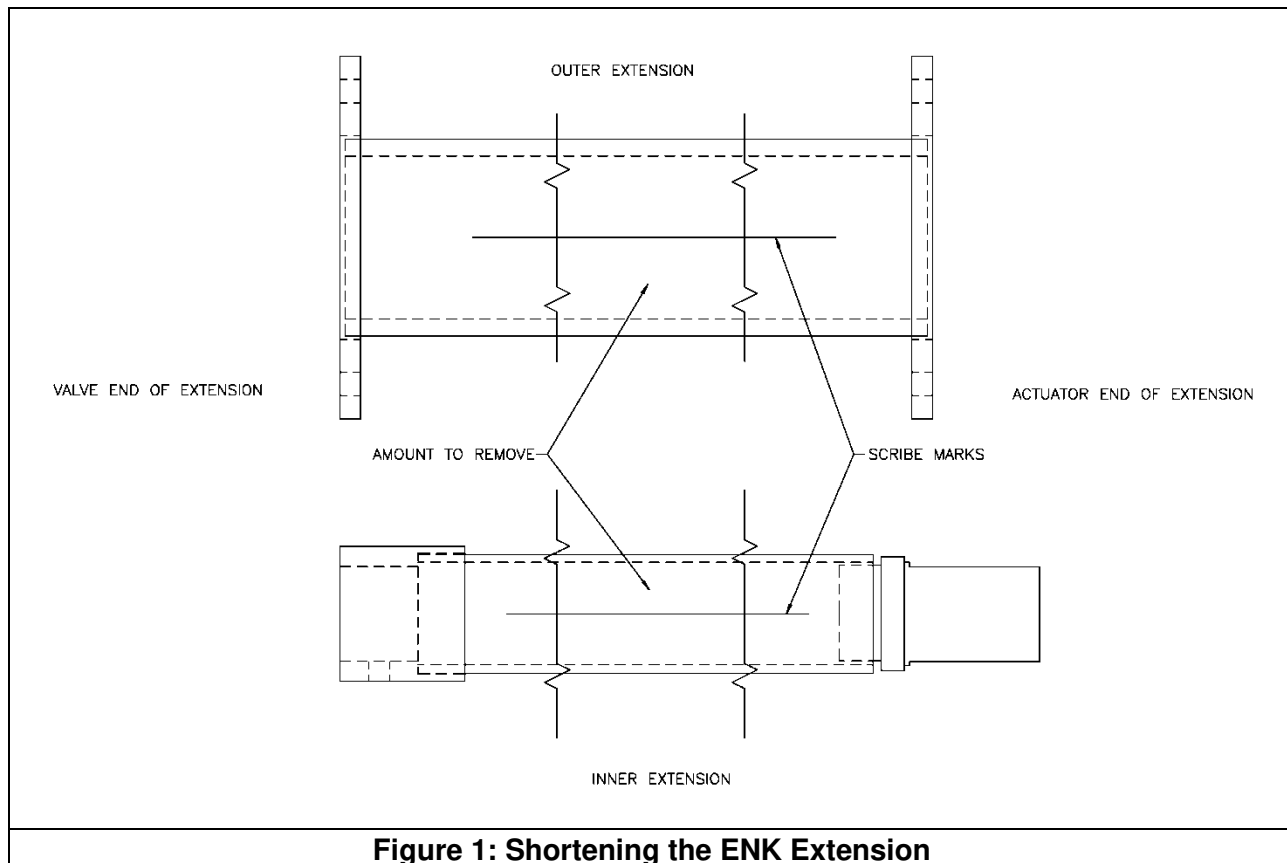

Figure 1: Shortening the ENK Extension
1. Scribe inner and outer extensions as shown in Figure 1 with the scribe marks at least 4" longer than the amount to remove.